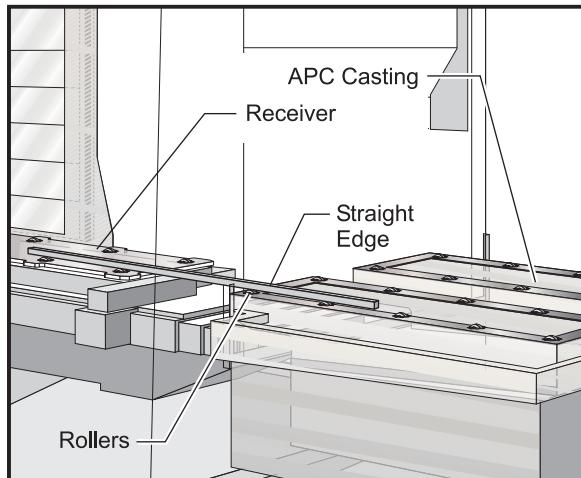

Figure 3.7 APC roller alignment setup.
12. Place the straightedge on top of the rollers of both the VMC receiver (unclamped) and the APC, to check the APC height (see Figure 3.7). Make sure that the straightedge is on top of at least two rollers on both the unclamped receiver and the APC in order to get an accurate reading. Adjust the leveling screws in the APC legs until the straightedge lays completely flat on all rollers.